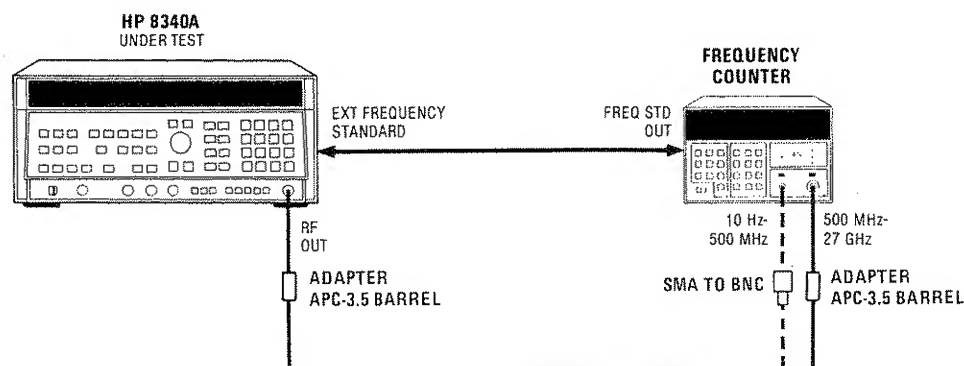

Figure 4-2. Frequency Range Test Setup
1. Connect the equipment as shown in Figure 4-2. Connect the 8340A RF Output to the 10 MHz-500 MHz counter input. Allow at least 30 minutes warm up time. The 8340A under test and the Frequency Counter use the same frequency standard to eliminate time base error from the measurement. Set the 8340A rear panel FREQUENCY STANDARD switch to EXT.